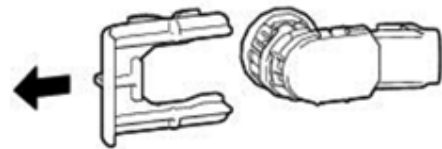

Figure 5
7. Remove both parking assist sensors from the bumper by pulling the white clip away from the black sensor. (Figure 5)